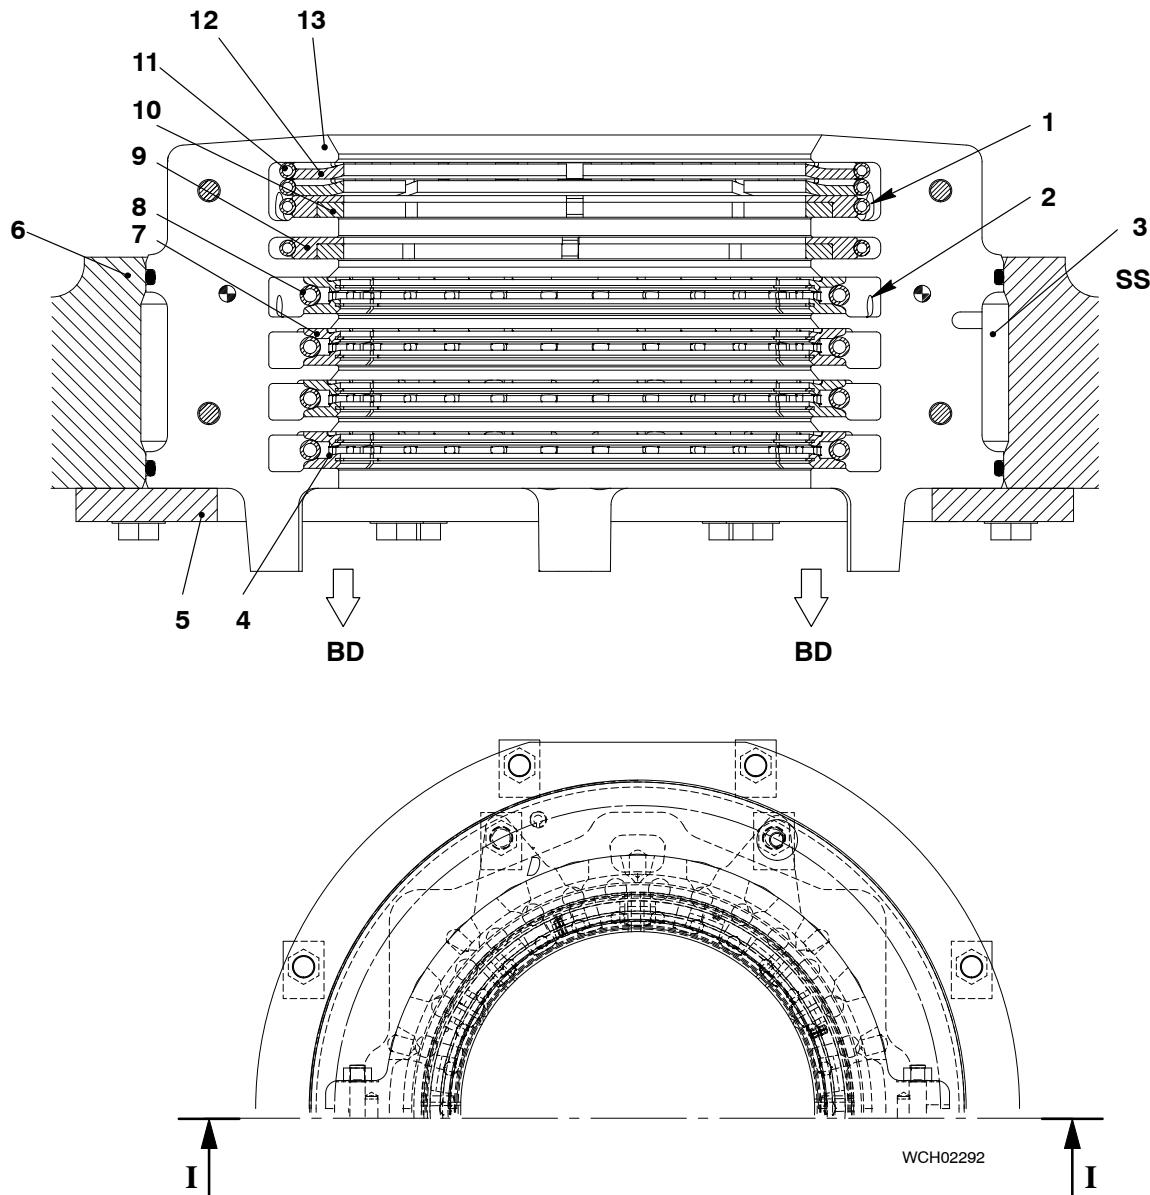

Fig. 2: Piston Rod Gland
During operation, the two scraper rings (12, Fig. 2) remove dirty oil from the piston rod. The dirty oil flows through the oil bores (1) and collects in the bottom of the scavenge space (SS). The dirty oil flows out through the leakage oil drain on the fuel side.